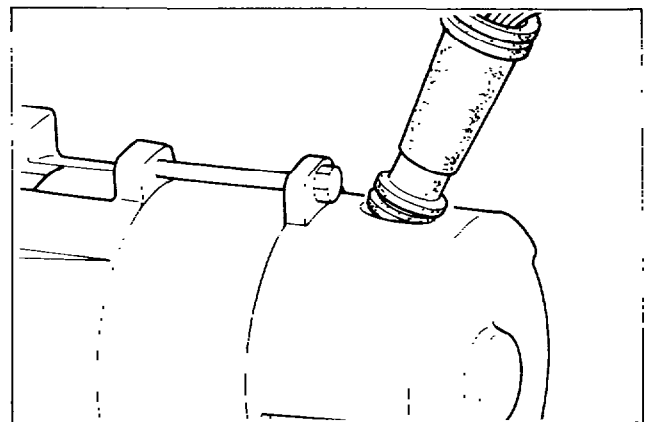

Fig. 10-23
- 6) Pass the wires out of the top of rear cover through the grommet, and fit the grommet into the hole in the rear cover. (See Fig. 10-23.) Then, reverse the bushing for mounting the control box and place it on the grommet. The bushing has a larger diameter than the grommet.